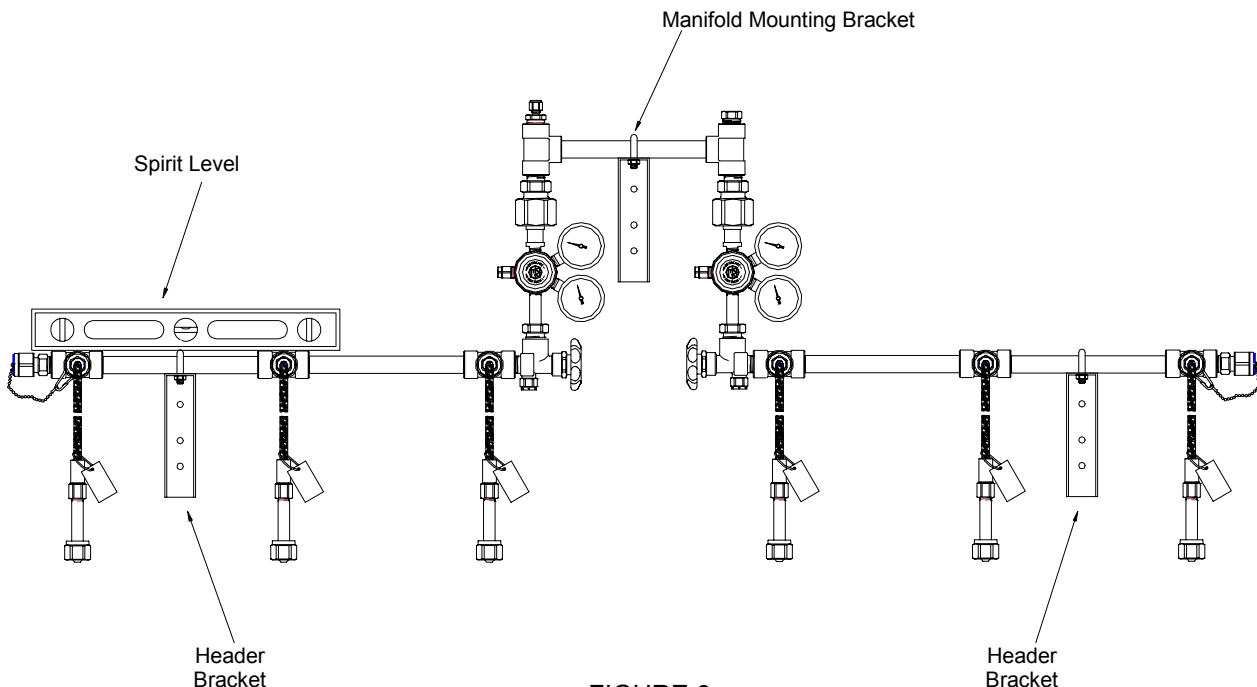

FIGURE 6
5. Mount the manifold by placing the "H" section of the manifold bracket. Fit the U-bolt over the "H" section and tighten the mounting nuts. (Figure 6)
6. Using a level, mark the placement of mounting brackets while keeping the header on a horizontal plane. (Figure 6)